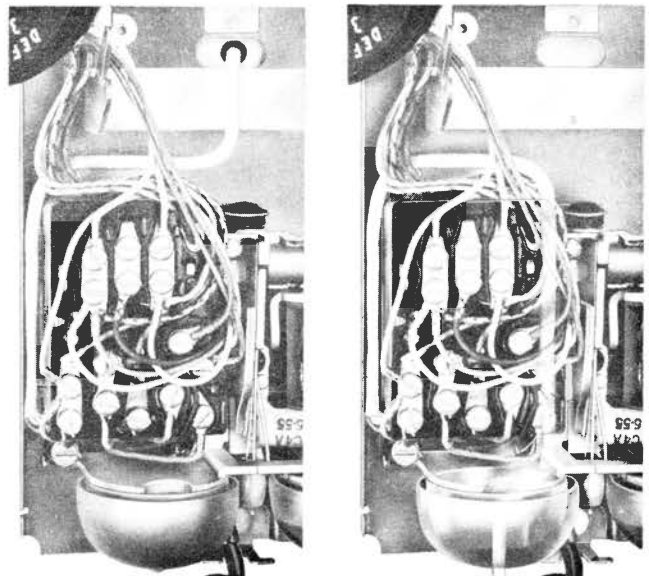

Fig. 19 — Inside Wire Terminated in 554 Wall-type Telephone Set
7.04 Concealed wiring may enter 354 (Fig. 18) and 554 (Fig. 19) wall-type telephone sets through the opening provided in metal base.